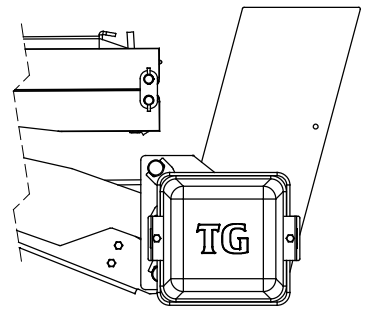

Figure 1: Platform Folded and Level.
1. Lower the platform from the stowed position until the springs are loose on the platform (Figure 1).